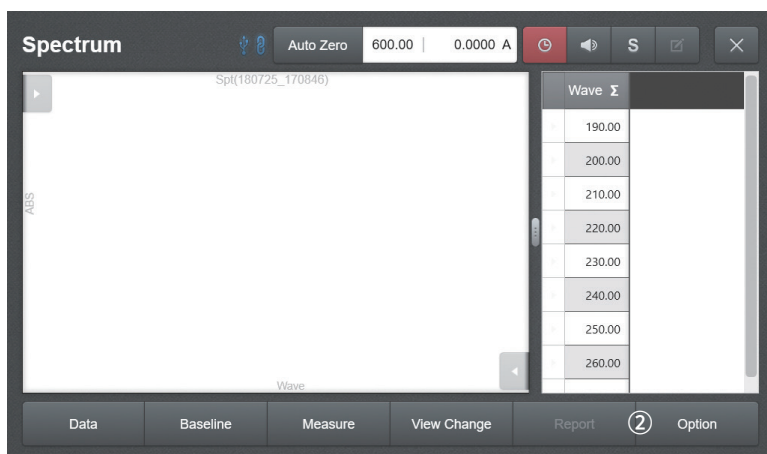

Fig. 5.10
2. [Fig. 5.10] Move to the ② **Option** and specify the measurement settings.